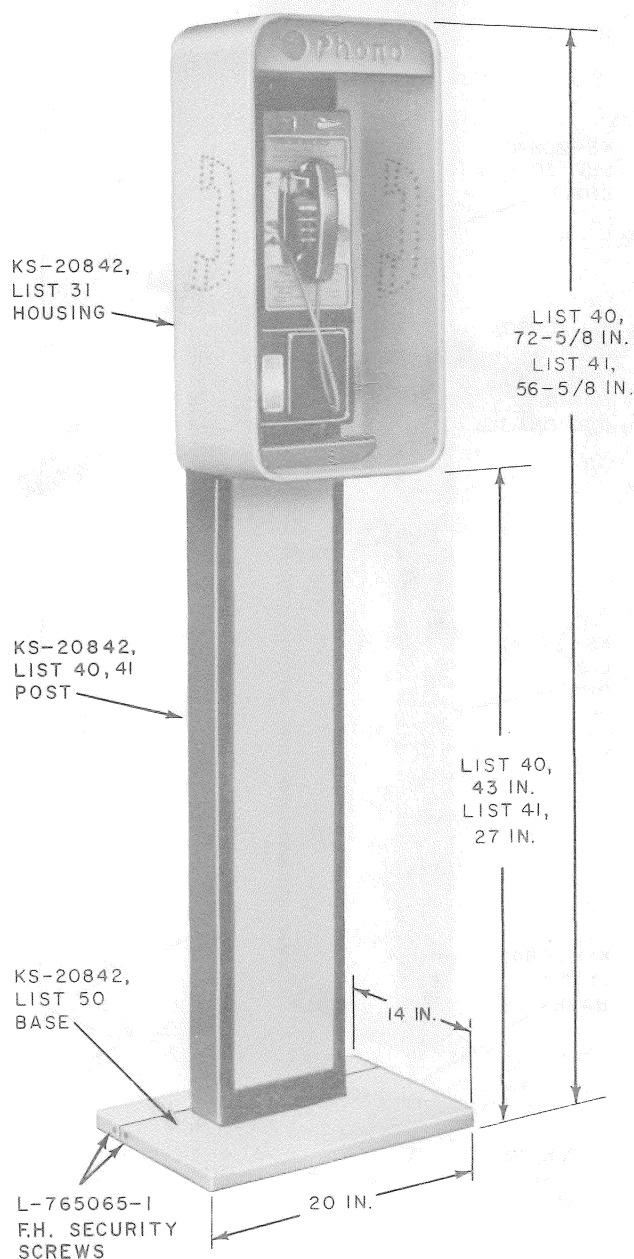

Fig. 1—KS-20842, List 5 (Walk-Up) or List 9 (Drive-Up) Telephone Mounting
2.01 The KS-20842 telephone mounting (Fig. 1, 2, 3, 4, 5, and 6) consists primarily of a post, a shelf or housing, and a base. Refer to Table A for the various combinations of the shelf, housing, and base that may be used with the post to make up the different mounting assemblies.
2.05 The List 40 post (Fig. 1 or 2) is common to each of the (walk-up or walk-in) mounting assemblies and is approximately 5-3/4 feet high, 10 inches wide, 4 inches deep, and weighs approximately 110 pounds.
2.06 The List 41 post (Fig. 1) is common to each of the (drive-up) mounting assemblies and is approximately 4-1/2 feet high, 10 inches wide, 4 inches deep, and weighs approximately 90 pounds.
2.12 The List 50 regular base (Fig. 1) is 20 inches long, 14 inches wide, 7/8-inch thick, and weighs approximately 70 pounds. Ten mounting holes are provided for securing the base to a mounting surface. Two aluminum covers protect the mounting hardware and provide a finished appearance.
2.16 The List 31 housing (Fig. 1 or 3) is intended for indoor or outdoor use. Made of 1/4-inch thick aluminum, the housing is approximately 14-5/8 inches wide, 9-5/16 inches deep, and 29-5/8 inches high.